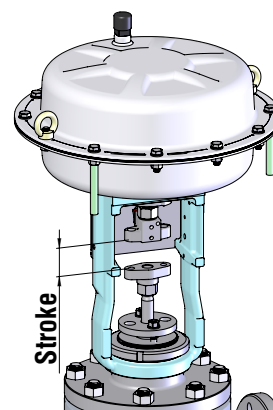

Figure 7: Stroke adjusting
6. Mount the lock nut (113) and lower coupling (345) onto the valve stem.
8. Adjust the distance between the lower coupling (345) and the upper coupling (249) with the aid of an adapter in stroke height (Figure 7).
10. Mount the cap screws (240).
11. Lock the lock nut (113). Secure the upper coupling (249) against turn unwanted with a wrench.